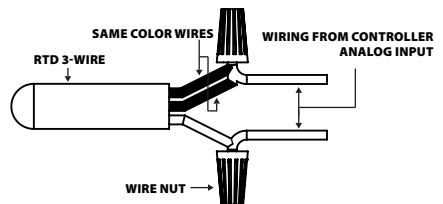

**FIGURE 6: TEMPERATURE WIRING**
ACI recommends 16 to 26 AWG twisted pair wires or shielded cable for all temperature sensors. ACI recommends a separate cable be pulled for Temperature signal only. Temperature Signal wiring must be run separate from low and high voltage wires (24/120/230VAC). All ACI thermistors and RTD temperature sensors are both non-polarity and non-position sensitive. All thermistor type units are supplied with (2) flying lead wires, and all RTD's are supplied with (2) or (3) flying lead wires – see **FIGURE 6** (p. 3). The number of wires needed depends on the application. Connect thermistor/RTD wire leads to controller analog input wires using wire nuts, terminal blocks, or crimp style connectors. All wiring must comply with local and National Electric Codes. After wiring, attach the cover to the enclosure.
**Note:** When using a shielded cable, be sure to connect only (1) end of the shield to ground at the controller. Connecting both ends of the shield to ground may cause a ground loop. When removing the shield from the sensor end, make sure to properly trim the shield to prevent any chance of shorting.
**Note:** If the controller requires a (2) wire input for a RTD, connect the (2) common wires (same color) together. If the controller requires (3) wires, use (3) individual wires - see **FIGURE 6** (p. 3).